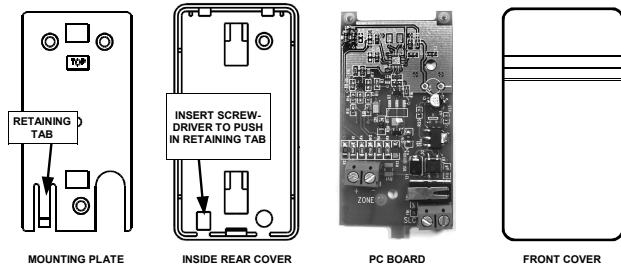

Fig. 1. GEMC-BSLC-1PT Expansion Module Component Parts
- Remove point module mounting plate.** Use a small screwdriver to push in retaining tab (Fig. 1) and slide cover upward.